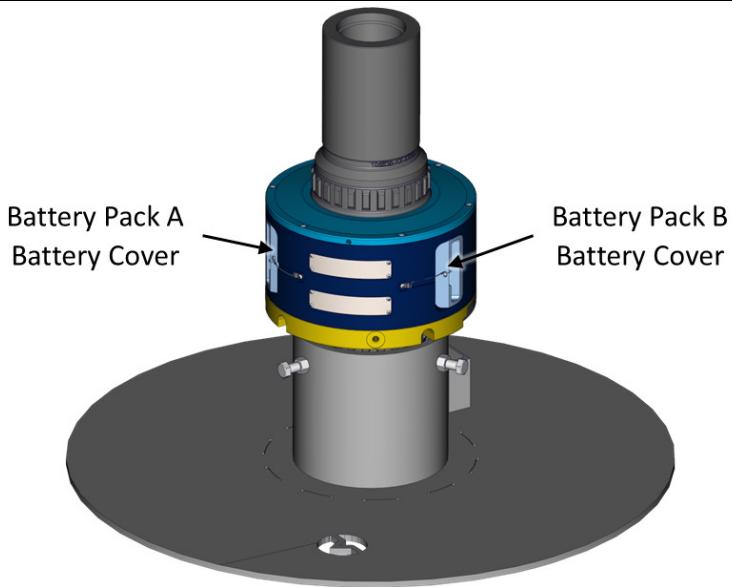

Figure 8-1: TMS Tool in Assembly Stump; Battery Designations
- NOTE** Orient and secure the TMS in the **Assembly Stump** as shown in Figure 8-1 to perform maintenance on the TMS. Note the instructions and capacities marked on the Assembly Stump.